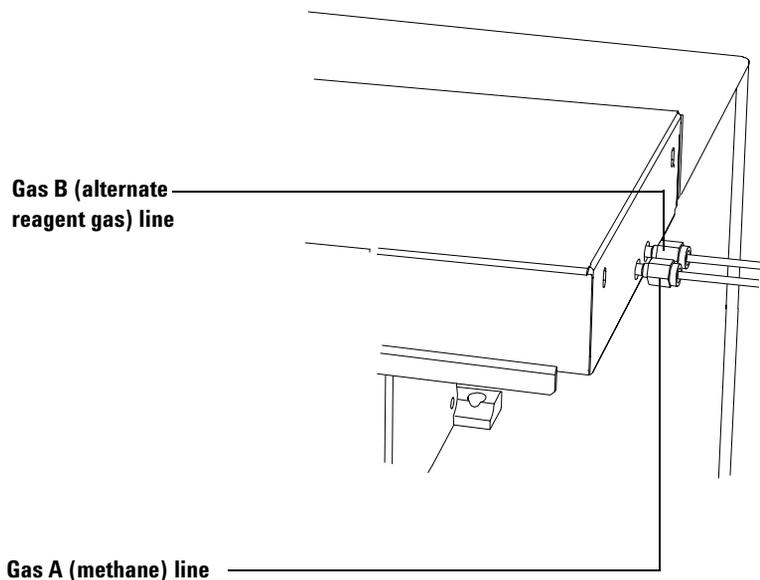

Figure 6 Connecting the methane line
- 8 Connect the other end of the tubing to the Gas A fitting on the flow module as shown in Figure 6.